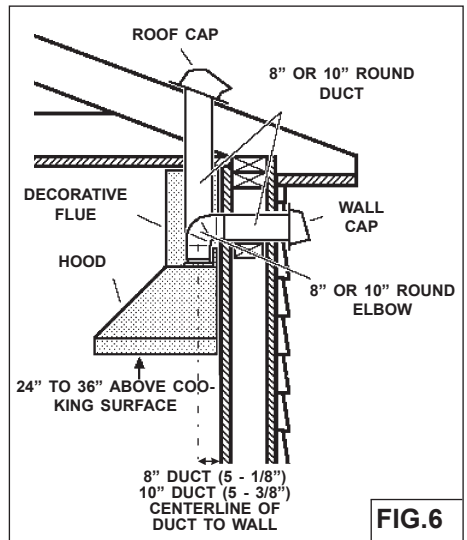

FIG.6
4. Install a roof or wall cap. Connect 8" WPP9IQ (or 10" WPP9IQT) round metal ductwork to cap and work back towards hood location. Use duct tape to seal the joints between ductwork sections (Fig.6).